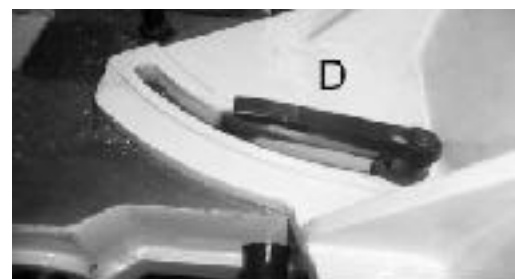

Fig.14
3. If an adjustment is necessary loosen clamp handle (D) Fig.14. Loosen set screw (F) and turn adjusting screw (G) until the vise jaw is 90 degrees to the blade. NOTE: turn screw (G) from the opposite end, through the face of the vise jaw. End of screw (G) should contact stud of clamp handle (D) when vise jaw is 90 degrees to the blade. Then tighten set screw (F).
4. If an adjusting is necessary, loosen clamp handle (D) Fig.14. Loosen set screw (K) should contact stud of clamp handle when vise jaw is 45 degrees to the blade. Then tighten set screw (H).